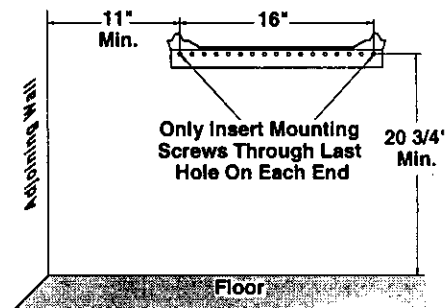

Figure 13 - Mounting Bracket Clearances
WARNING: Maintain minimum clearances shown in Figure 13. If you can, provide greater clearances from floor and joining wall.
2. Mark screw locations on wall (see Figure 13).